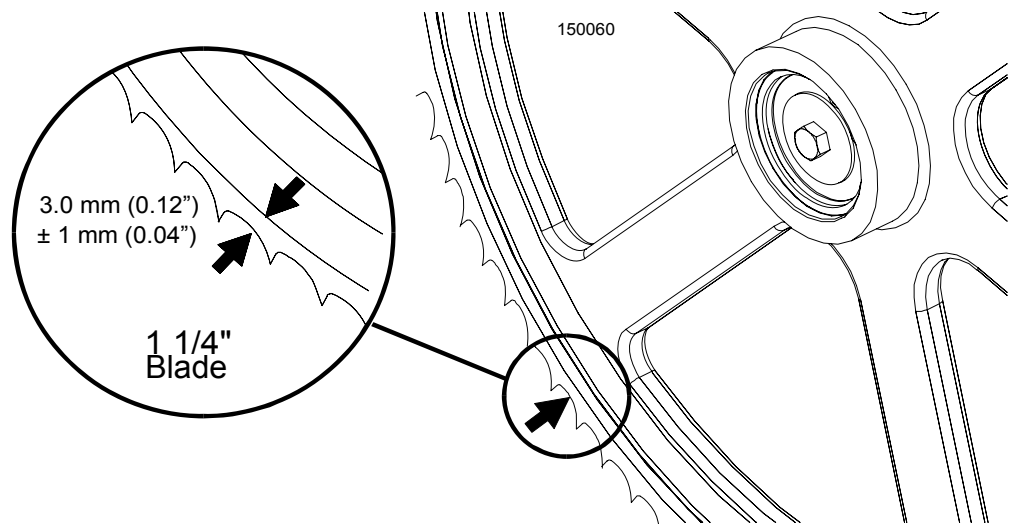

FIG. 4-5
**See Figure 4-5.** The horizontal tilt of the blade wheel should be adjusted so that the gullet of an 1-1/4" blade is 1/8" (3 mm) out from the front edge of the wheel ( $\pm 1/32$  [0.75 mm]).